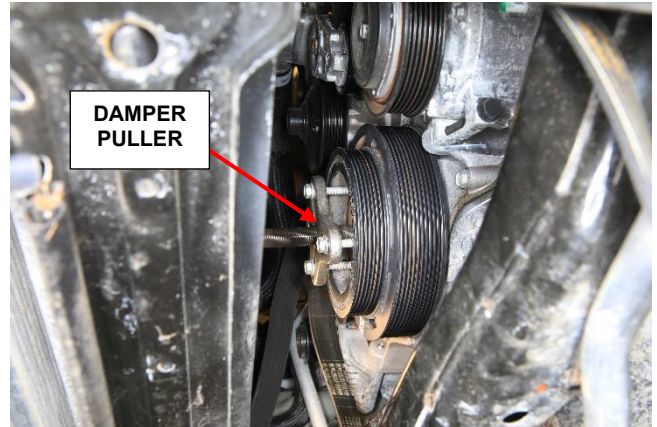

Figure 8 – Crankshaft Damper Puller Installation
15. Install the crankshaft damper puller, making sure the bolts are fully threaded through the entire crankshaft damper (Figure 8).